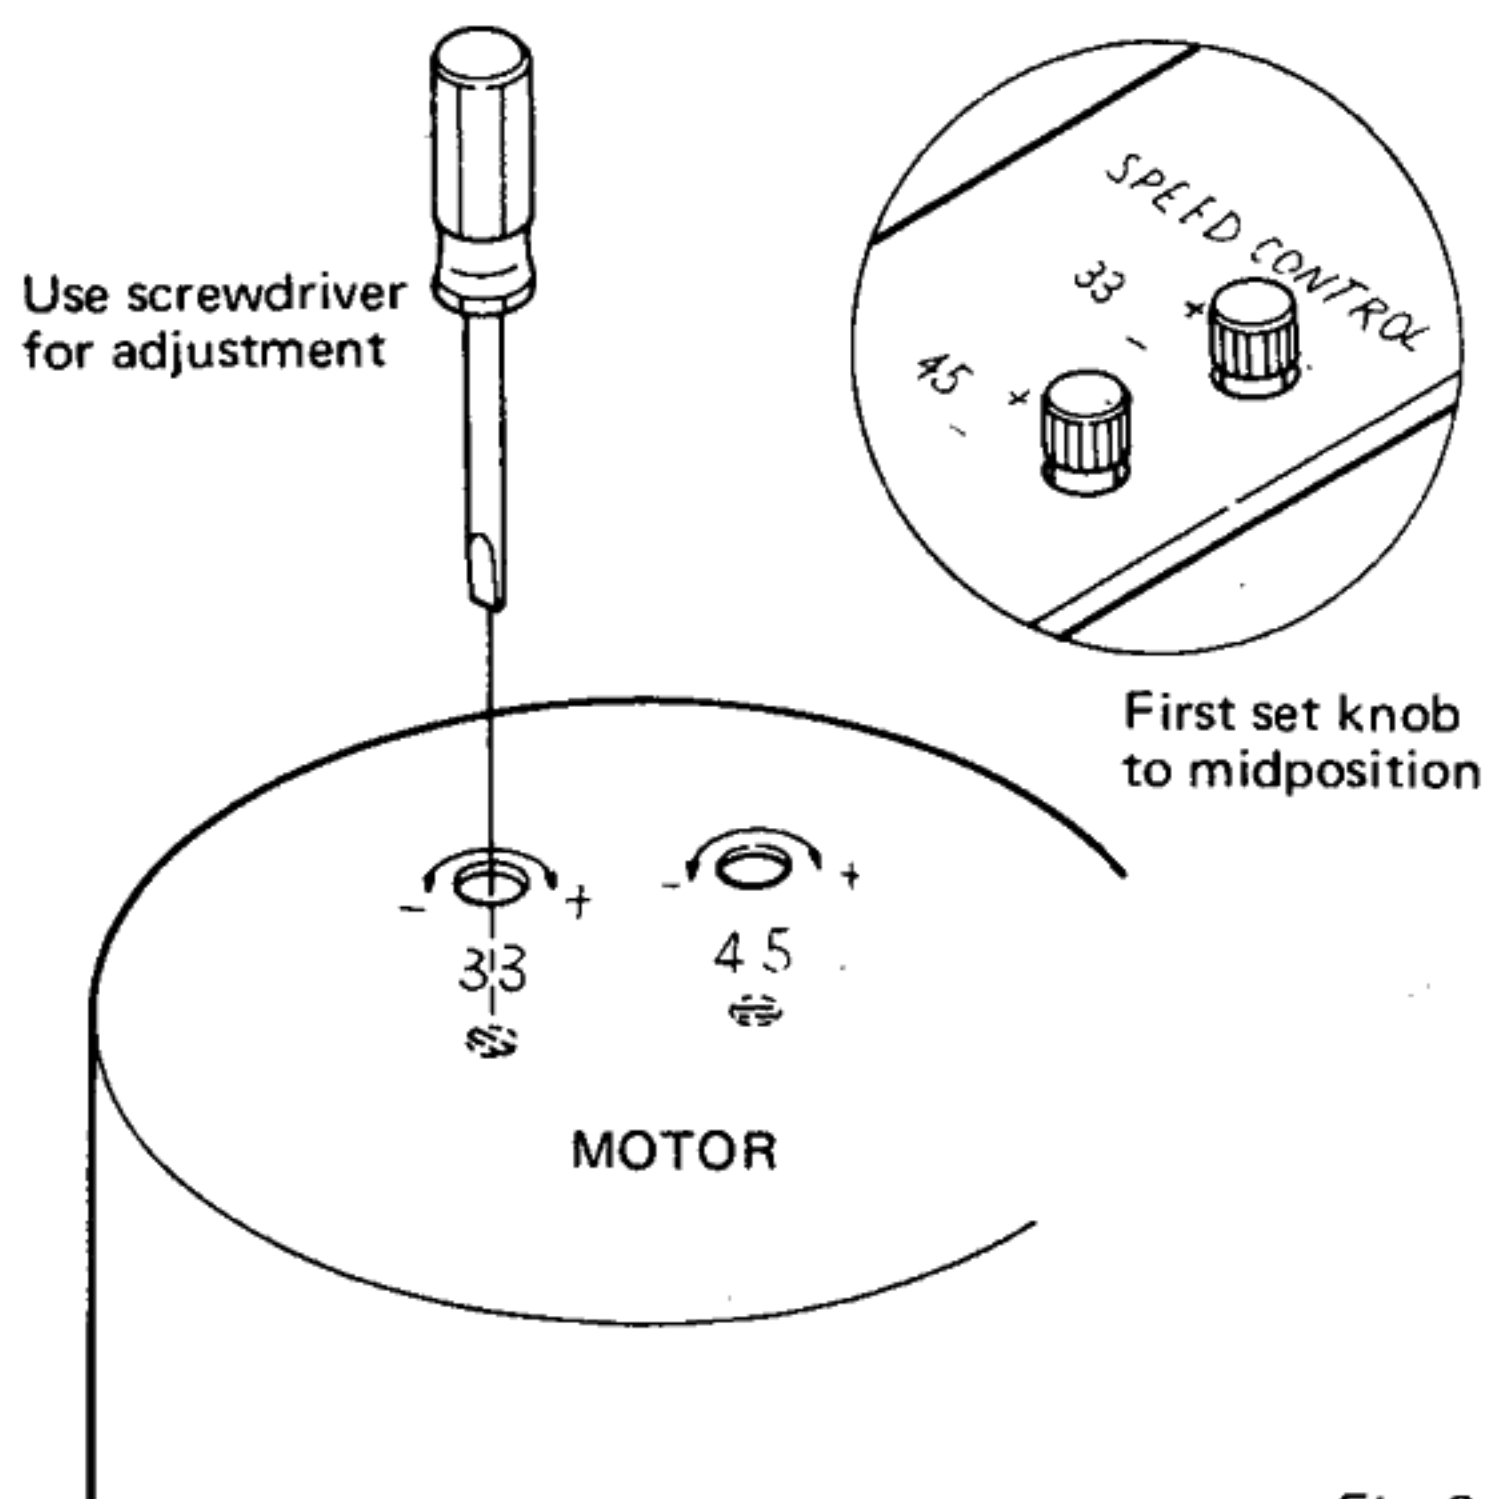

Fig. 3.
3. While observing the edge of the turntable platter with a strobe, adjust screws inside the motor as shown in Fig. 3.